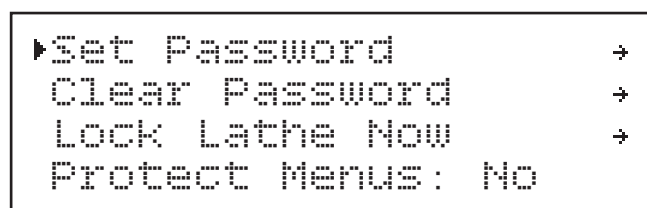

Figure 123. Set Password submenu.
1. Press Menu button and use spindle speed dial to scroll down to Set Password submenu, as shown in **Figure 123**.